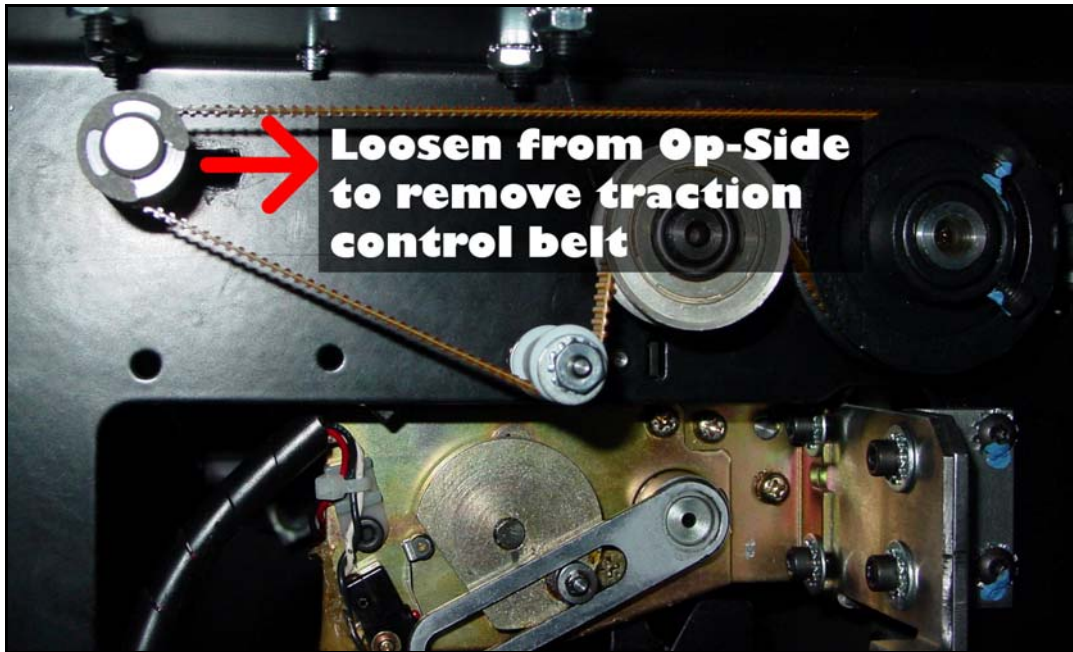

Figure 4 – Slide Adjustable Screw to Allow Removal of Traction Control Belt
- b. Adjustable slot tension – (see Figure 4) Loosen from the front of the Platestream and slide adjustable screw over to allow enough slack to remove the belt.